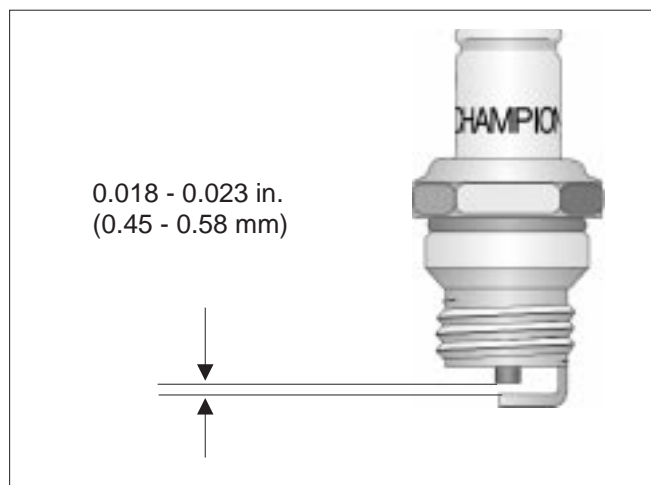

Figure 1-9. Spark Plug Gap.
4. Check the spark plug gap using a wire feeler gauge. Set the gap to 0.018-0.023 inch (0.45 to 0.58 mm) (Figure 1-9).